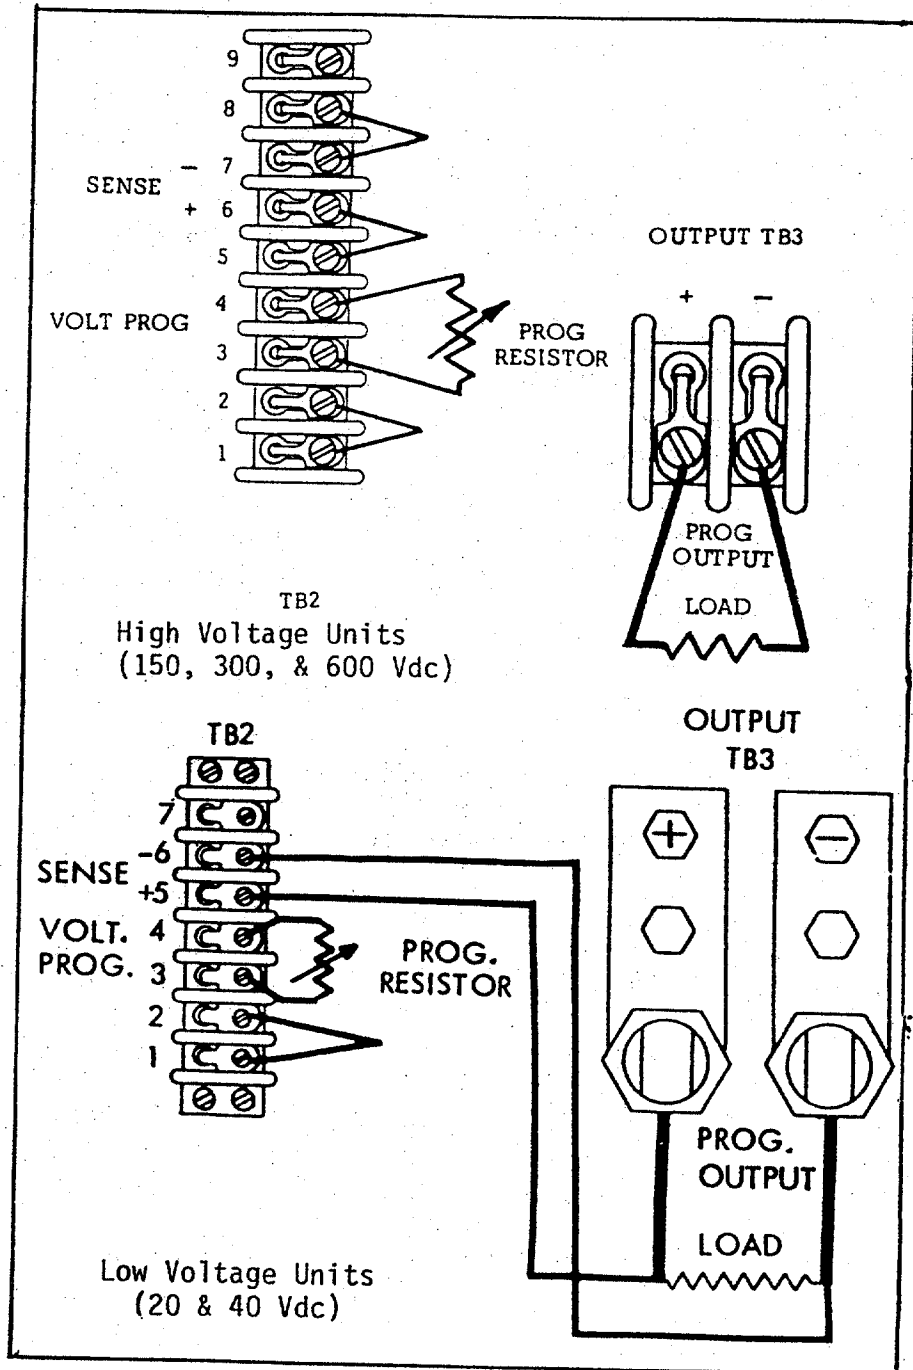

Figure 3-4 Voltage Resistor Programming (With Remote Sensing)
The unit output voltage may be programmed externally to a predetermined regulated value. This is done by connecting a resistance into the voltage reference circuit of the voltage mode section. Terminals on TB2 are provided for this purpose. (See Figure 3-4).
- c. Connect programming resistor across terminals 3 and 4. (See Figure 3-4 for diagram of voltage programming connection)